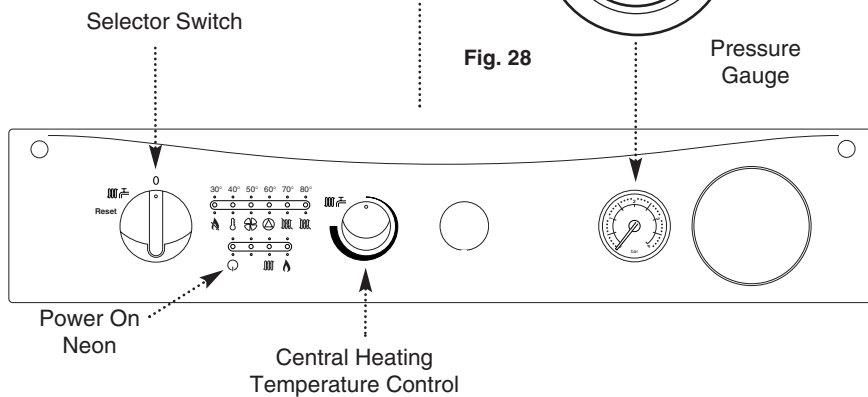

Fig. 29
8. If at any time during commissioning it is required to terminate a particular cycle, e.g. the pump overrun period, turn the selector to the Off position and then back to the On position () (Fig. 29).